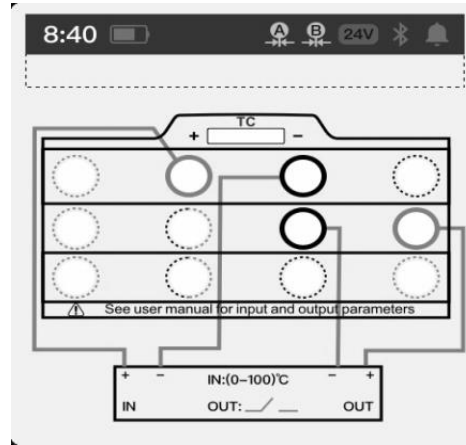

Figure 20 Temperature switch
- ◆ Connect the DUT with the measurement and output module of the calibrator, as shown in the Figure 20.